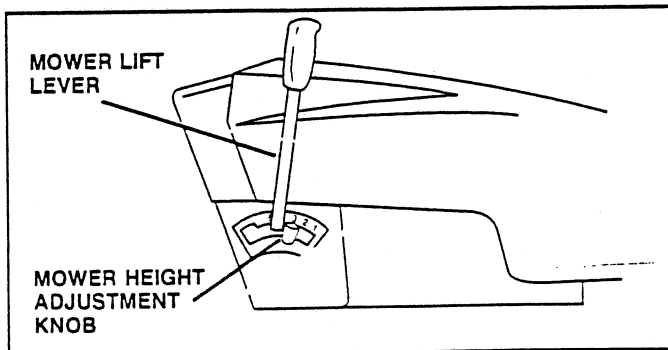
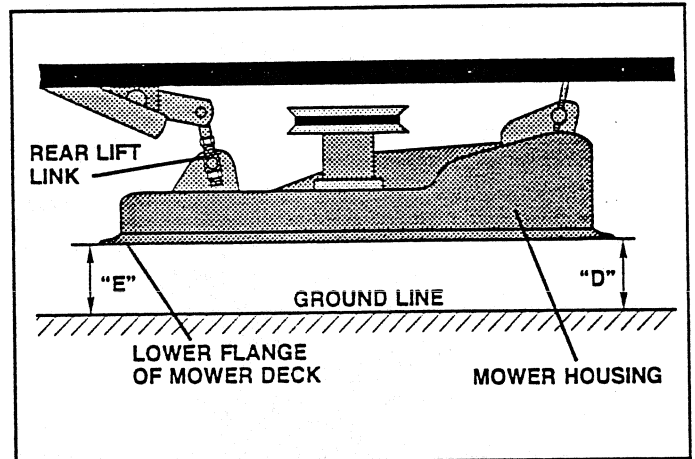

FIG. 19
FIG. 22
TO LEVEL MOWER HOUSING (See Fig. 19 - Fig. 22)
- Place mower height adjustment knob in position "3" (See Fig. 19).